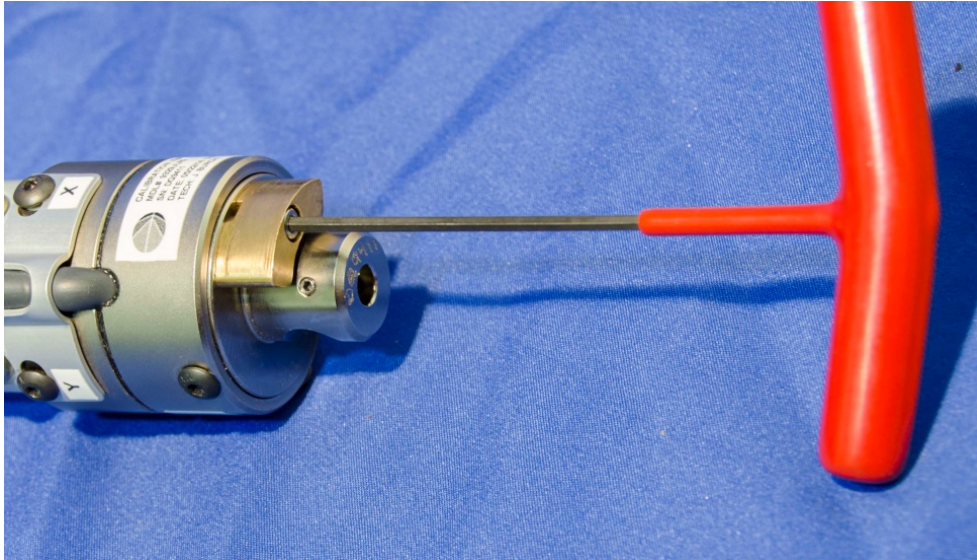

Figure 12-15. Install Z-rotation wedge to lower tibia load cell
12.2.2.6 Install the Z-Rotation Wedge Assembly (472-7330) to the lower tibia load cell using an M3 x 0.5 x 12 SHCS (Figure 12-15).